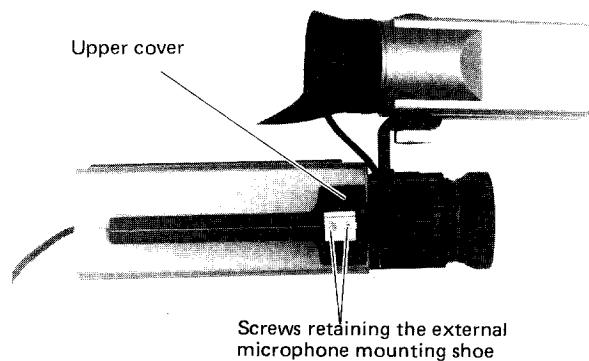

Figure 28.
1. Remove two screws (XBSSC26P06000) from the accessory shoe (GDAl-3013TAFc), and pull out the upper cover (GC5VH1042TASA). (See Fig. 28)
1. Remove two screws (XBSSC26P06000) from the accessory shoe (GDAi-3013TAFc), and pull out the upper over (GC5VH1042TASA). (See Fig. 28)